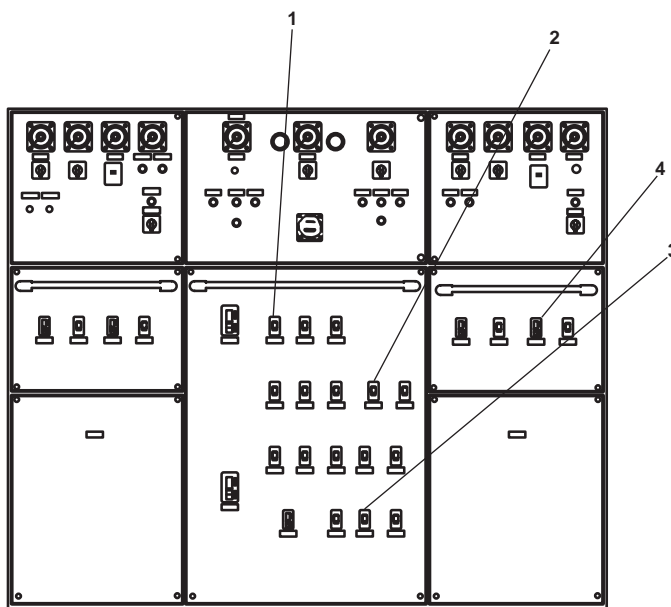

Figure 1. EOS Main Switchboard
- a. At the main switchboard in the EOS, set the AUX MACH SPACE NO.2 PWR PNL NO.5 circuit breaker (figure 1, item 1) to the ON position.